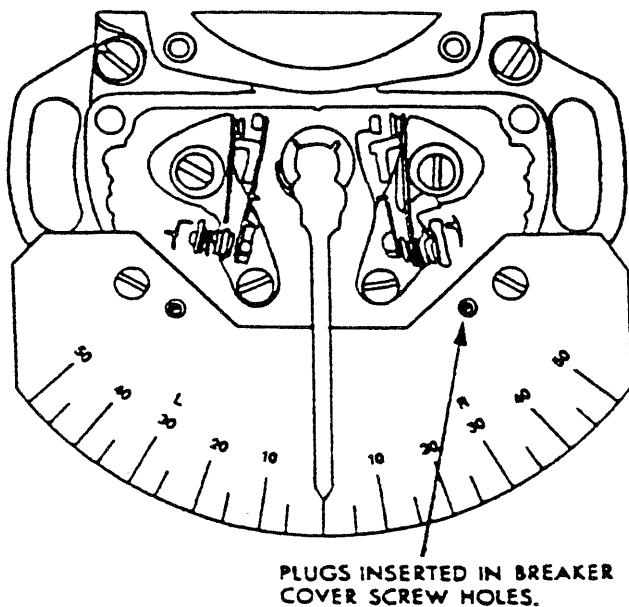

Figure 918. Timing Kit Installed on Housing
- B. Install the Timing Plate Assembly of the 11-8150-1 Timing Kit to contact compartment of magneto. See Figure 918. Turn rotor in direction of normal rotation until painted chamfered tooth on distributor gear is approximately centered in inspection window. Then turn it back until rotor locates in its neutral position.